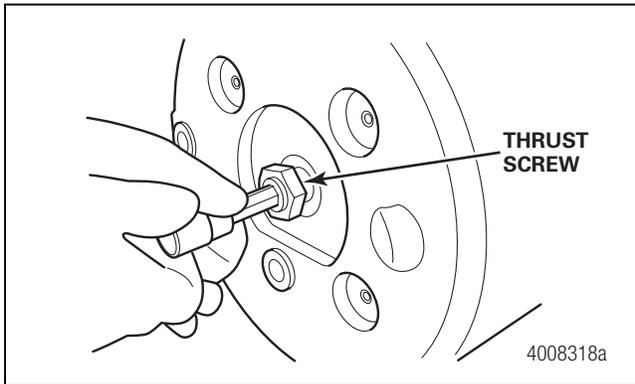

Figure 3.3
2. If necessary, remove the thrust screw from the planetary assembly. Figure 3.3.